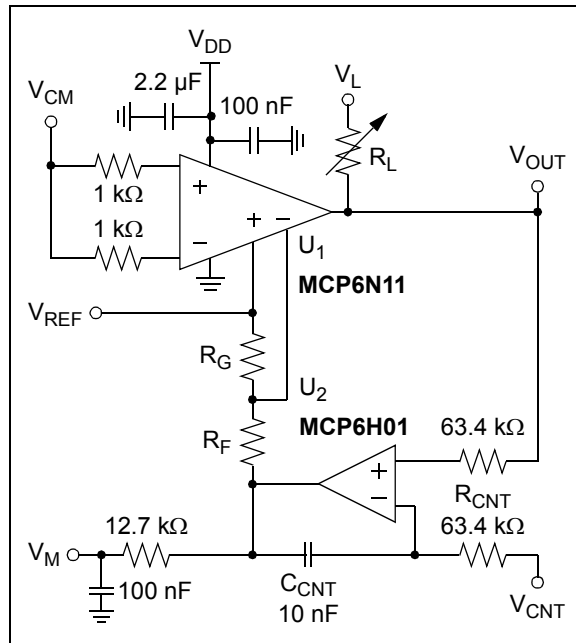
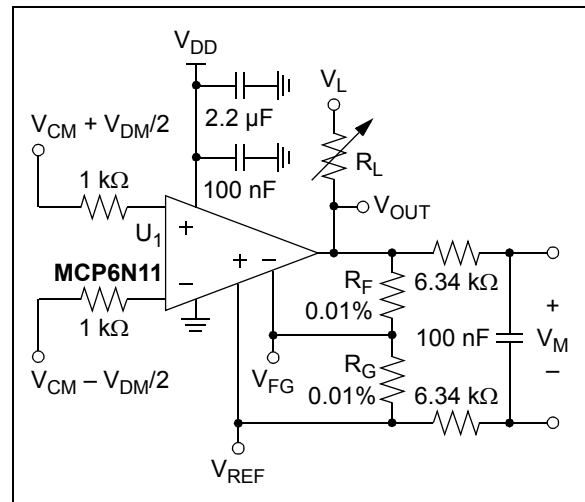

**FIGURE 1-6:** Test Circuit for Common Mode (Input Offset).
**FIGURE 1-7:** Test Circuit for Differential Mode.
**Electrical Characteristics:** Unless otherwise indicated,  $T_A = 25^\circ\text{C}$ ,  $V_{DD} = 1.8\text{V}$  to  $5.5\text{V}$ ,  $V_{SS} = \text{GND}$ ,  $\text{EN}/\text{CAL} = V_{DD}$ ,  $V_{CM} = V_{DD}/2$ ,  $V_{DM} = 0\text{V}$ ,  $V_{REF} = V_{DD}/2$ ,  $V_L = V_{DD}/2$ ,  $R_L = 10\text{ k}\Omega$  to  $V_L$ ,  $C_L = 60\text{ pF}$  and  $G_{DM} = G_{MIN}$ ; see Figure 1-6 and Figure 1-7.
**Electrical Characteristics:** Unless otherwise indicated,  $T_A = 25^{\circ}\text{C}$ ,  $V_{DD} = 1.8\text{V to } 5.5\text{V}$ ,  $V_{SS} = \text{GND}$ ,  $\text{EN}/\overline{\text{CAL}} = V_{DD}$ ,  $V_{CM} = V_{DD}/2$ ,  $V_{DM} = 0\text{V}$ ,  $V_{REF} = V_{DD}/2$ ,  $V_L = V_{DD}/2$ ,  $R_L = 10\text{ k}\Omega$  to  $V_L$ ,  $C_L = 60\text{ pF}$  and  $G_{DM} = G_{MIN}$ ; see Figure 1-6 and Figure 1-7.
Figure 1-6 is used for testing the INA's input offset errors and input voltage range ( $V_E$ ,  $V_{IVL}$  and  $V_{IVH}$ ; see Section 1.5.1 "Input Offset Related Errors" and Section 1.5.2 "Input Offset Common Mode Non-linearity").  $U_2$  is part of a control loop that forces  $V_{OUT}$  to equal  $V_{CNT}$ ;  $U_1$  can be set to any bias point.
Figure 1-7 is used for testing the INA's differential gain error, non-linearity and input voltage range ( $g_E$ ,  $INL_{DM}$ ,  $V_{DML}$  and  $V_{DMH}$ ; see Section 1.5.3 "Differential Gain Error and Non-linearity").  $R_F$  and  $R_G$  are 0.01% for accurate gain error measurements.
**Note:** Unless otherwise indicated,  $T_A = +25^\circ\text{C}$ ,  $V_{DD} = 1.8\text{V}$  to  $5.5\text{V}$ ,  $V_{SS} = \text{GND}$ ,  $\text{EN}/\text{CAL} = \overline{V_{DD}}$ ,  $V_{CM} = V_{DD}/2$ ,  $V_{DM} = 0\text{V}$ ,  $V_{REF} = V_{DD}/2$ ,  $V_L = V_{DD}/2$ ,  $R_L = 10\text{ k}\Omega$  to  $V_L$ ,  $C_L = 60\text{ pF}$  and  $G_{DM} = G_{MIN}$ ; see Figure 1-6 and Figure 1-7.
**Note:** Unless otherwise indicated,  $T_A = +25^\circ\text{C}$ ,  $V_{DD} = 1.8\text{V}$  to  $5.5\text{V}$ ,  $V_{SS} = \text{GND}$ ,  $\overline{\text{EN/CAL}} = V_{DD}$ ,  $V_{CM} = V_{DD}/2$ ,  $V_{DM} = 0\text{V}$ ,  $V_{REF} = V_{DD}/2$ ,  $V_L = V_{DD}/2$ ,  $R_L = 10\text{ k}\Omega$  to  $V_L$ ,  $C_L = 60\text{ pF}$  and  $G_{DM} = G_{MIN}$ ; see Figure 1-6 and Figure 1-7.
**Note:** Unless otherwise indicated,  $T_A = +25^\circ\text{C}$ ,  $V_{DD} = 1.8\text{V}$  to  $5.5\text{V}$ ,  $V_{SS} = \text{GND}$ ,  $\text{EN}/\overline{\text{CAL}} = V_{DD}$ ,  $V_{CM} = V_{DD}/2$ ,  $V_{DM} = 0\text{V}$ ,  $V_{REF} = V_{DD}/2$ ,  $V_L = V_{DD}/2$ ,  $R_L = 10\text{ k}\Omega$  to  $V_L$ ,  $C_L = 60\text{ pF}$  and  $G_{DM} = G_{MIN}$ ; see Figure 1-6 and Figure 1-7.